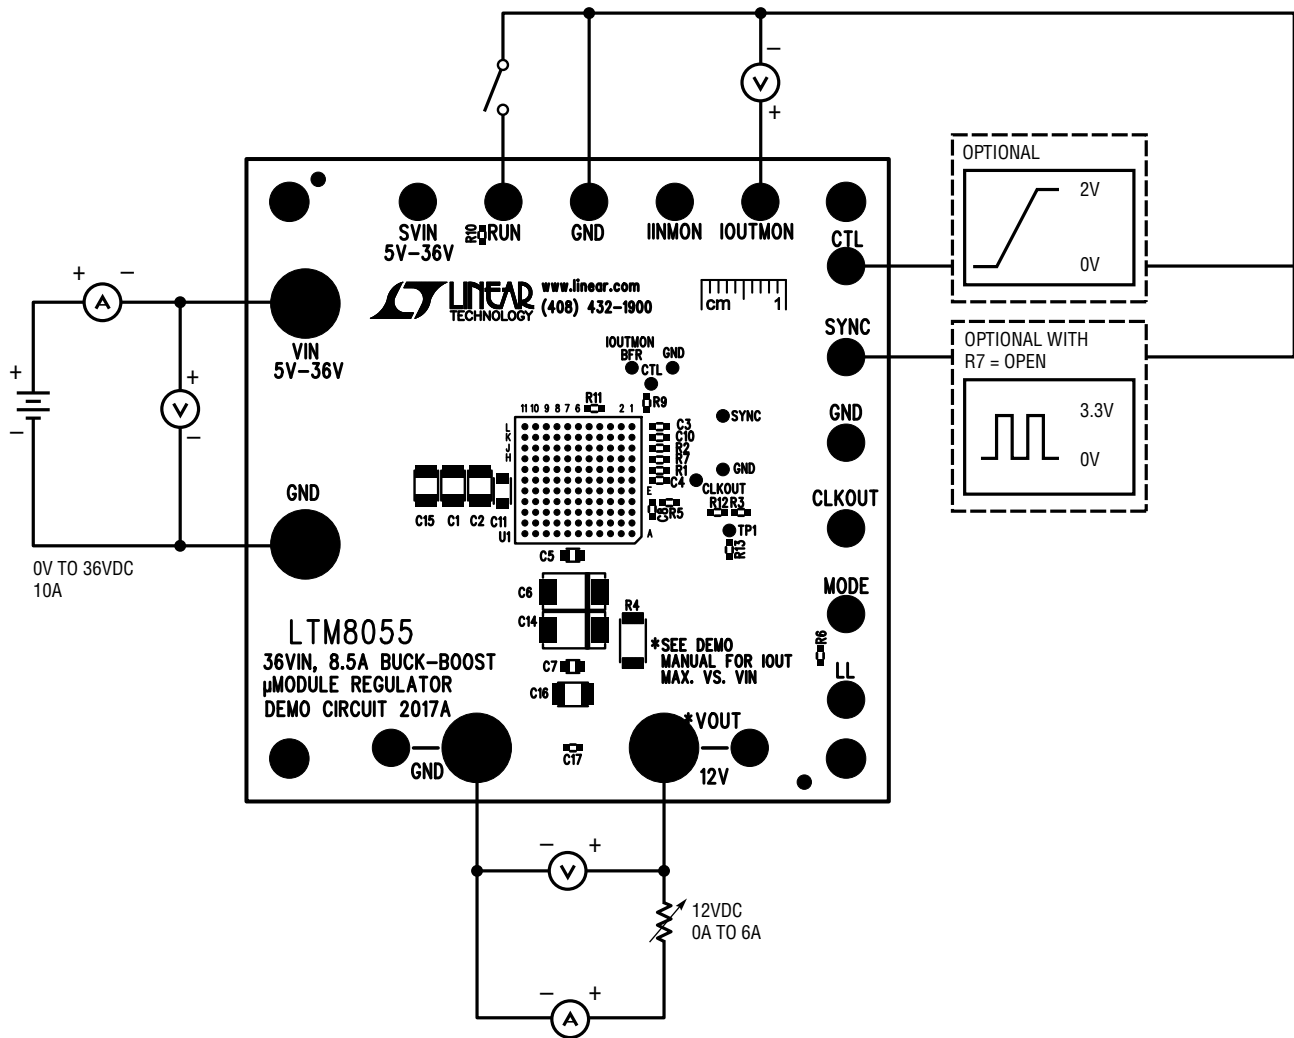
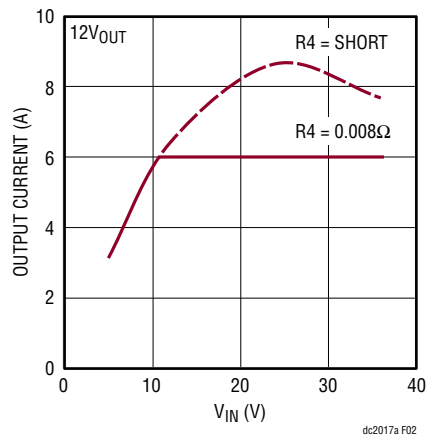

Figure 1. Proper Measurement Equipment Setup
Figure 2. Maximum Output Current vs Input Voltage for $V_{OUT} = 12V$
To use DC2017A to evaluate the performance of the LTM8055, refer to Figure 1 for the proper measurement equipment setup, Figure 2 for the maximum output current versus input voltage and then follow the procedure below:
1. Connect the RUN terminal to ground with a clip-on lead. Connect the power supply (with power off), load, and meters as shown in Figure 1.